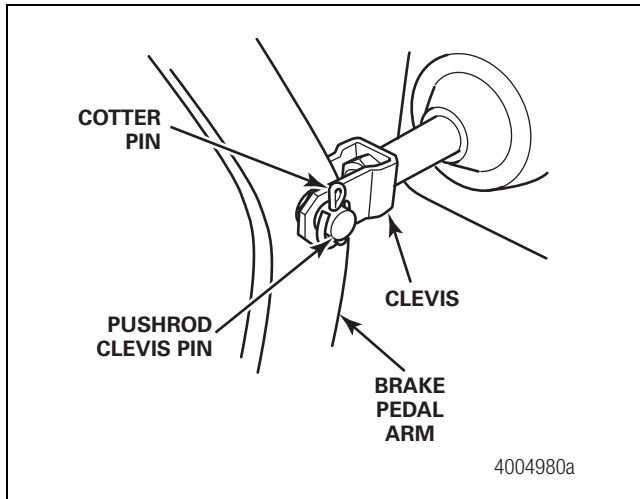

Figure 4.42
3. Connect the master cylinder pushrod clevis pin to the pedal assembly. The clevis pin must be installed into the same hole on the brake pedal as it was before the old master cylinder was removed. Secure the cotter pin. Figure 4.42.